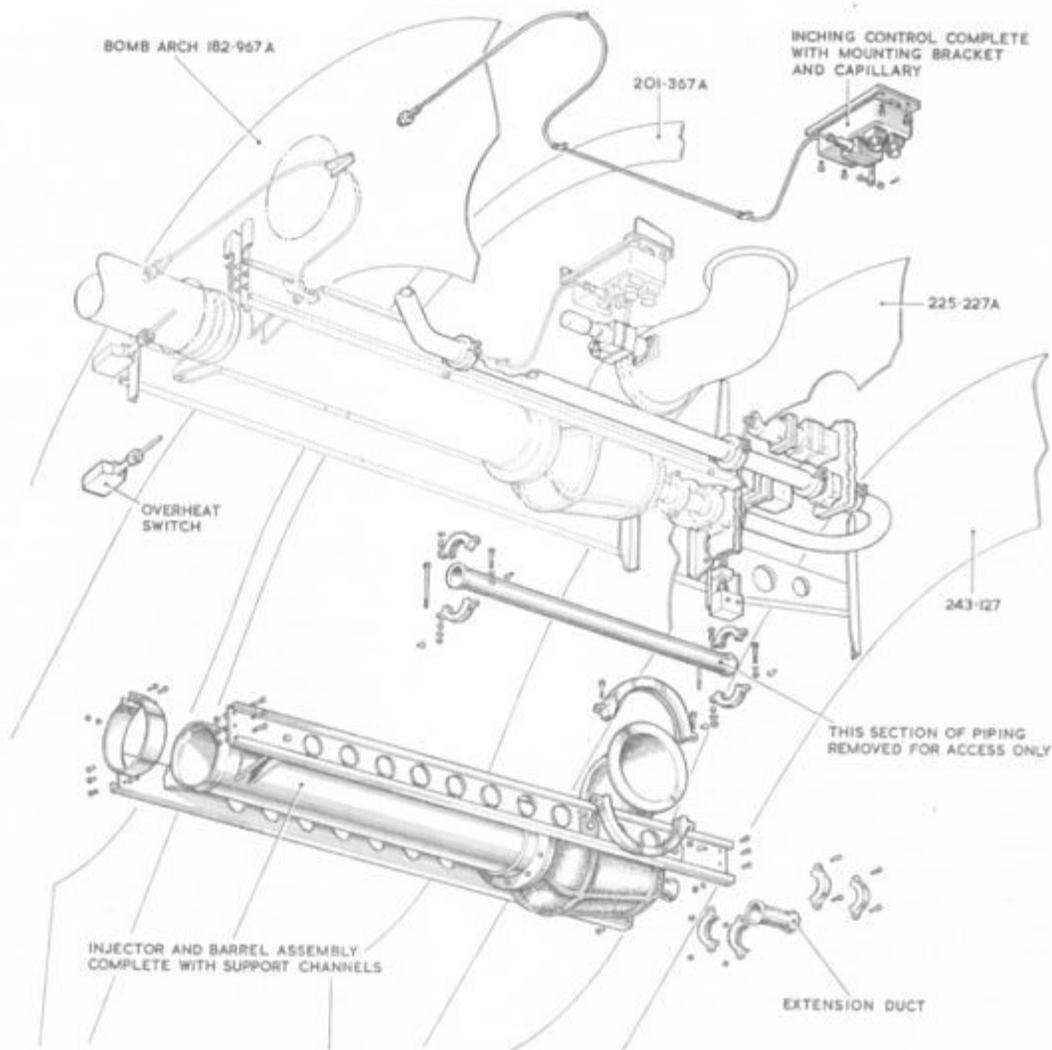

Fig.3. Removal of heating system components
9. A section of the bomb bay heating system comprising the injector and barrel assembly is removed together with the cold air inching control and overheat switch, as shown in fig.3. To remove these components:-